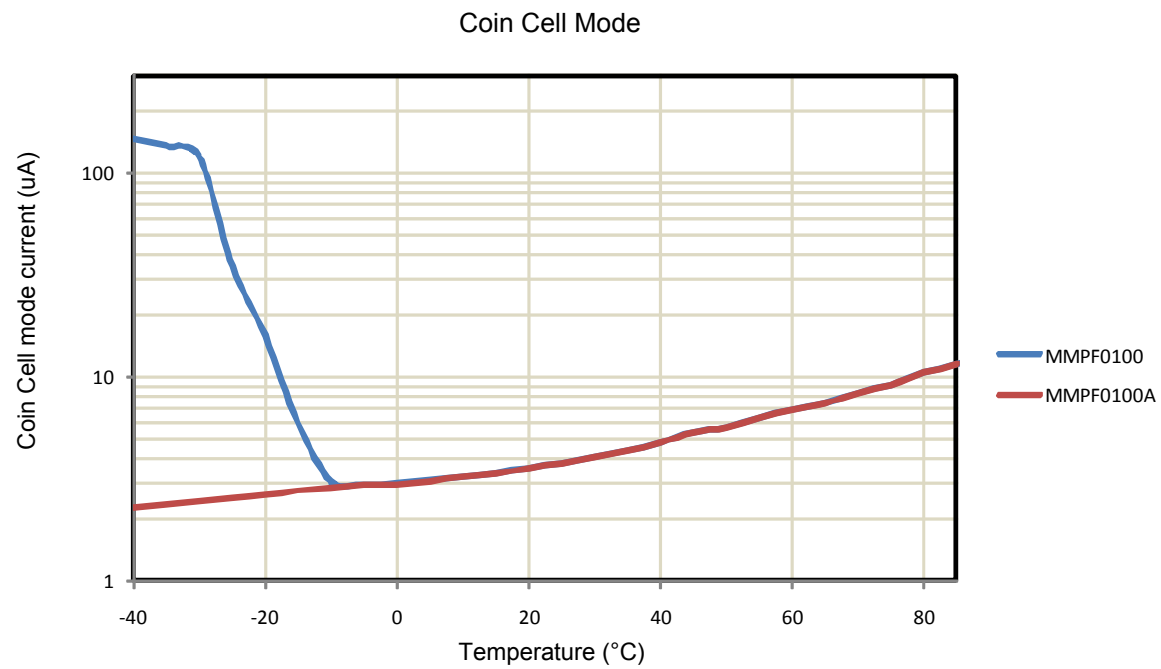

Figure 4. Coin cell Mode Current Vs Temperature
16. Refer to Figure 4 for Coin Cell mode characteristics over temperature.